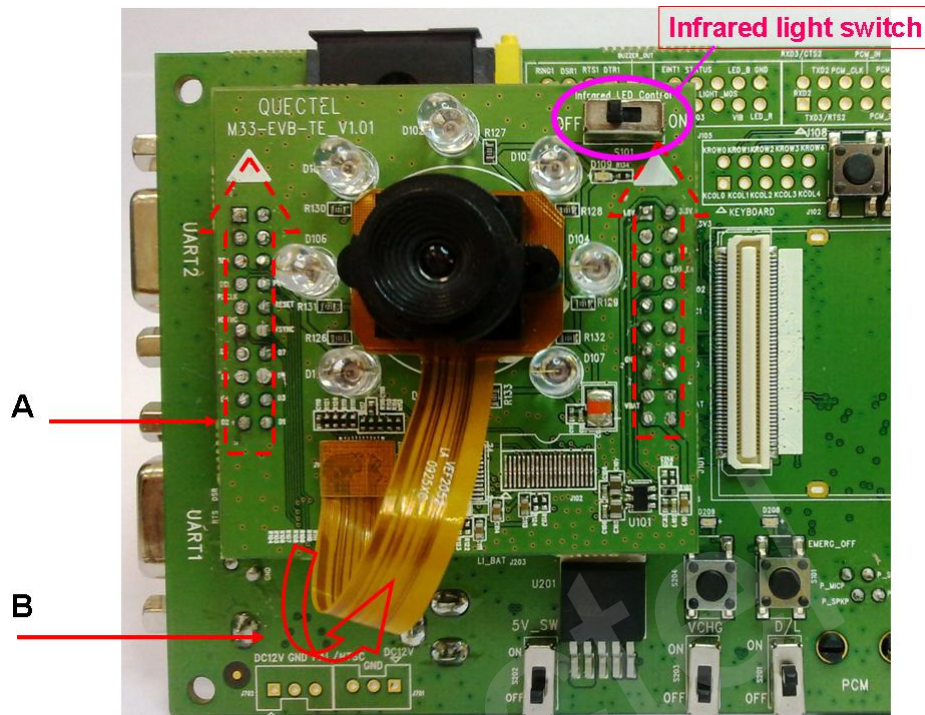

Figure 24: EVB_TE Board accessories assembly
- A. X101 and X102 connectors of M33_EVB_TE board mark the direction of assembly. Install as instructed by Figure 24.
- B. The FPC cable of the camera module must be assembled in the way shown in Figure 24.
- (1) Before powering on the module, assemble M33_EVB_TE board to M33_EVB board, and put camera module onto M33_EVB_TE board.
- (2) Power on the module by pressing the ON/OFF button.
- (3) Sending "AT+QCAMSEL="OV7725"" and "AT+QCAMON" can drive the module enter camera standby mode.
- (4) Sending "AT+QCAMSOT", "AT+QCAMMSOT" or "AT+QCAMAVI" can take photo and video.
- (5) M33_EVB_TE Board comes with a bunch of infrared LEDs around the Camera. These can be used to emit infrared light for object in dark environment. Customer can manually set the Infrared Lights Switch (refer to Figure 24.) to ON or OFF state.